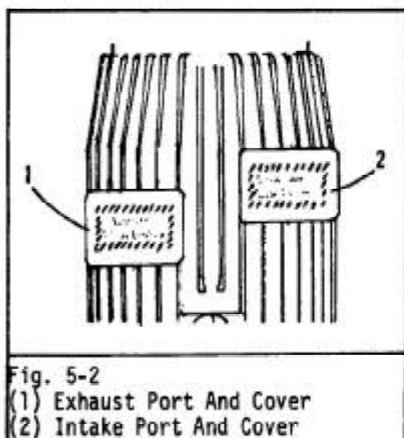

Fig. 5-2
The exhaust and intake ports are equipped with removable covers (1) and (2), Fig. 5-2. These covers must be removed prior to operation of the Hammer. Likewise, they should be used to cover the ports when the Hammer is not in operation. The latter must be done to afford maximum protection from the elements of foreign matter especially when transporting the Hammer. The ports should always be covered when the Hammer is idle for any length of time such as over night or while in storage.